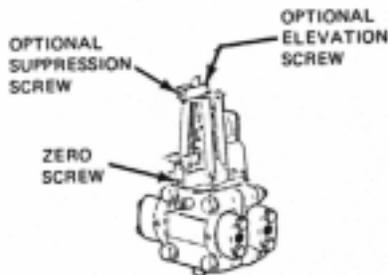

Figure 23.
5. For transmitter **without** optional zero suppression and zero elevation kit, adjust ZERO screw (Figure 23) until correct output is obtained.